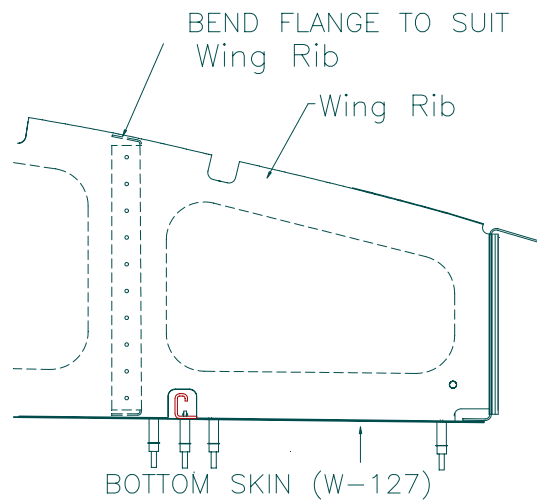

Figure 8.17.3
3) Bend the top flanges of the Bulkheads to match the camber top of the Wing Ribs. Rough fit the Bulkheads into the Wing to check the angle of the flange. Figure 8.17.3.